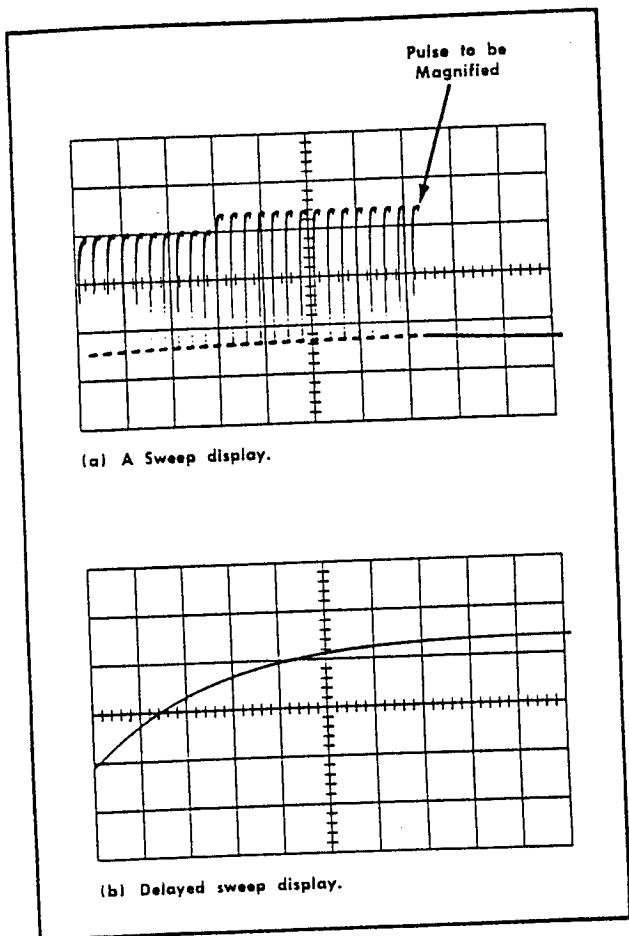

Fig. 2-20. Using delayed sweep for sweep magnification.
**Example.** The apparent magnification of the display shown in Fig. 2-20 with an A TIME/DIV setting of .1 mSEC and a B TIME/DIV setting of 1 μSEC would be: